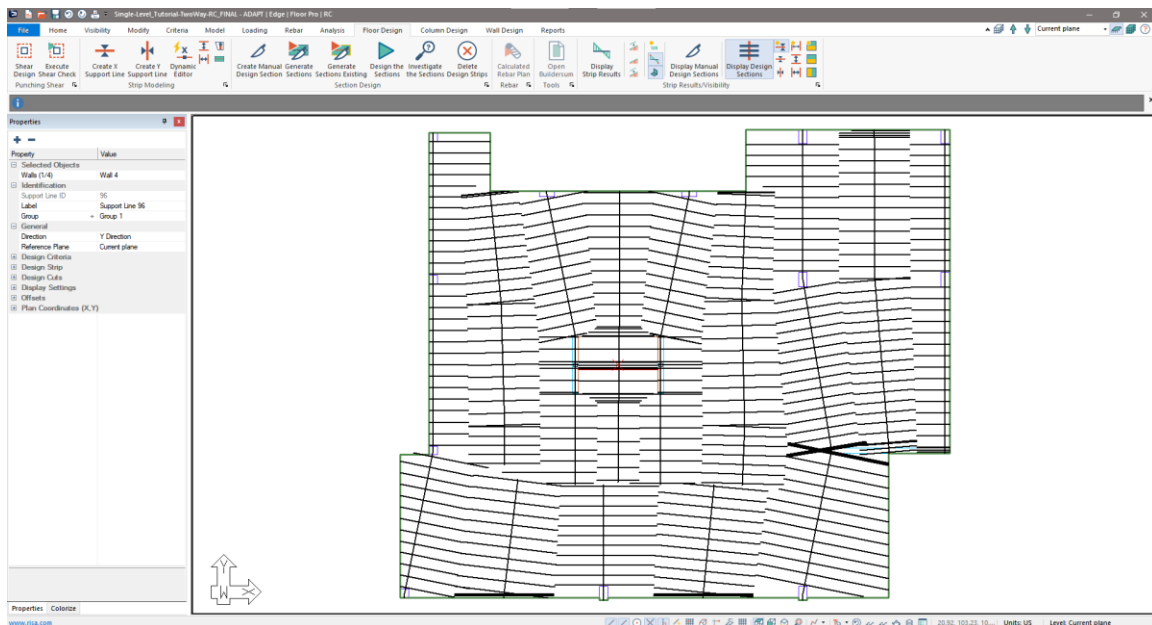

Figure6-33
- Go to *Floor Design* → *Section Design* and click on the *Generate Sections* icon. The user's screen should now look similar to **FIGURE 6-33**.